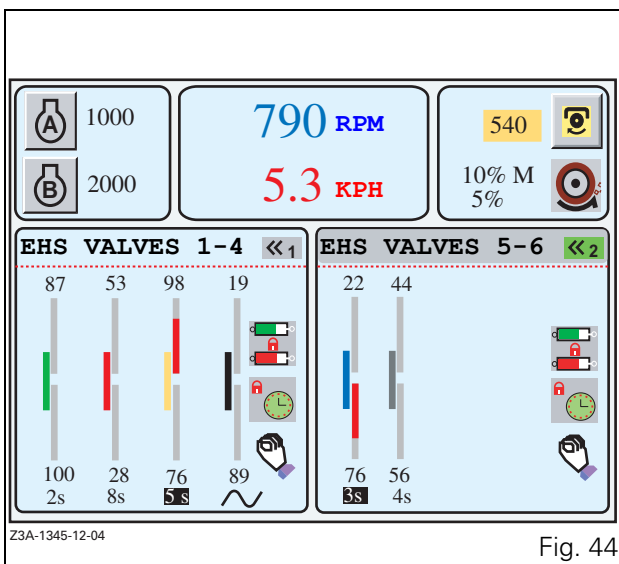

Fig. 44
- To display this menu, press key \llcorner_2 twice. The first press selects the window and the second press displays the list if no application was activated previously. On colour screens, the active window is indicated by the green icon at the top right-hand of the window (10 Fig. 44), and on b/w screens the active window is indicated by the same icon in reverse video.
- Validate by pressing the encoder or the key \llcorner_2 . The window (Fig. 44) is displayed.